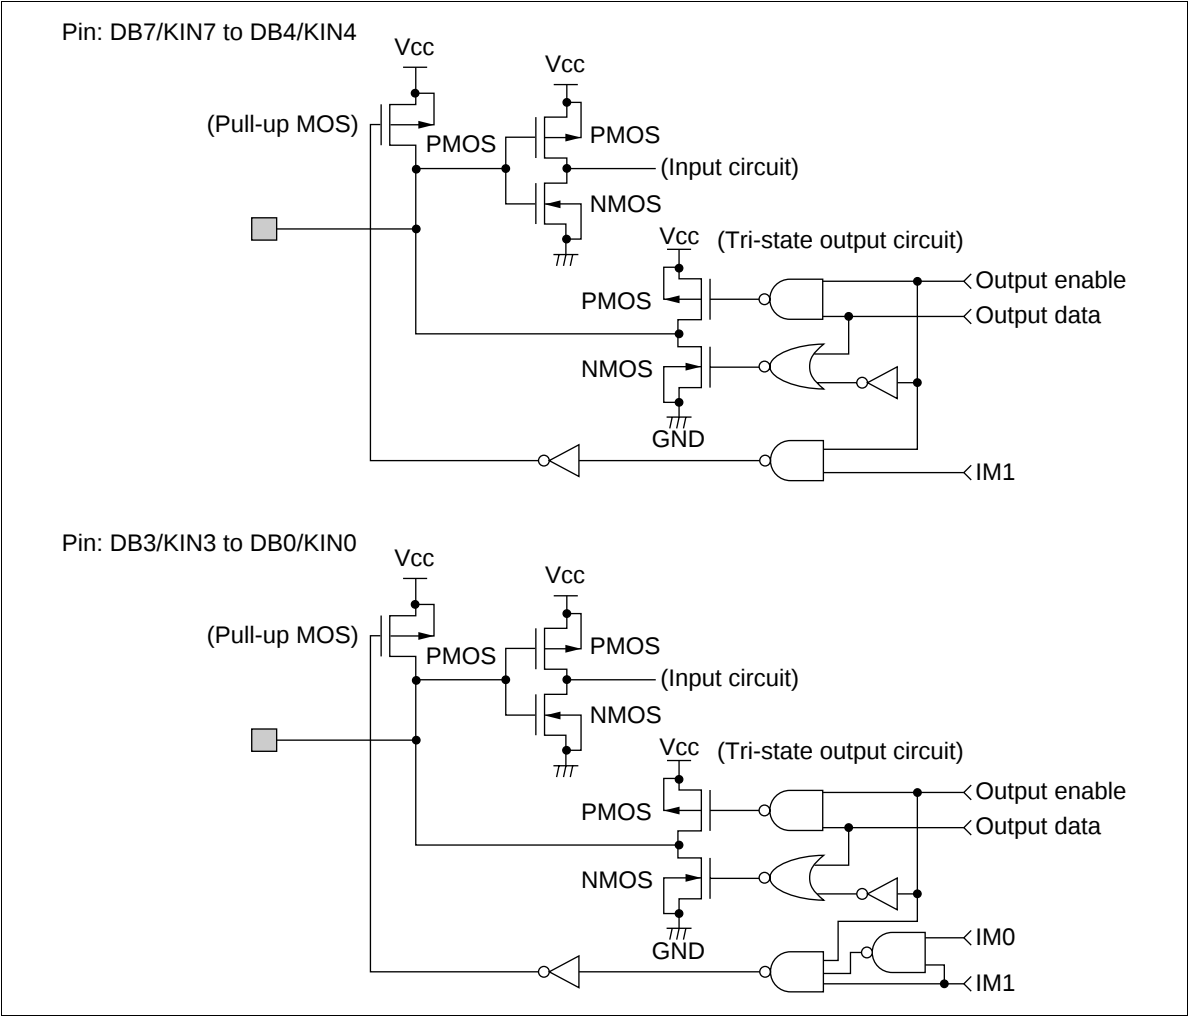

Figure 59 I/O Pin Configuration (cont)
5. The following three circuits are I/O pin configurations (figure 59).